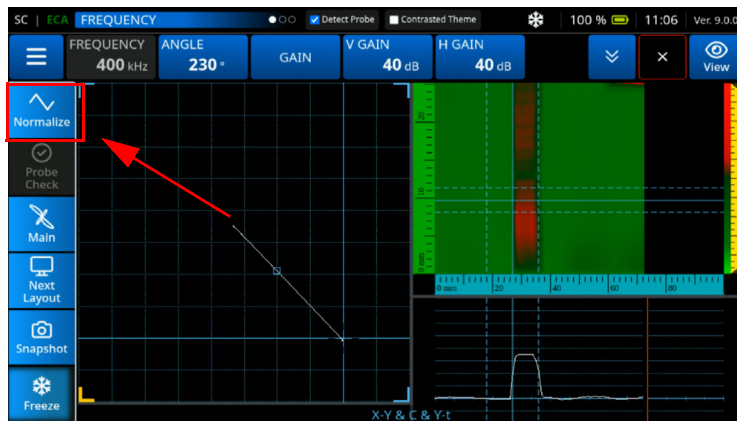

Figure 4-27 Press Normalize
8. Press **Normalize** (See Figure 4-27 on page 141).